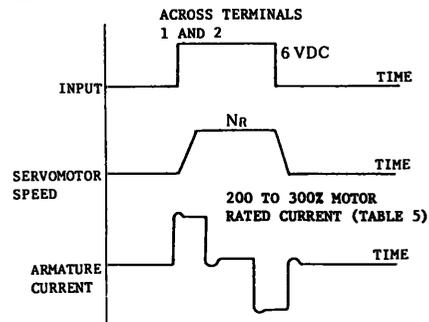

Fig. 8 Servomotor Start-Stop Characteristics
- (3) Servomotor start-stop characteristics (Fig. 8)